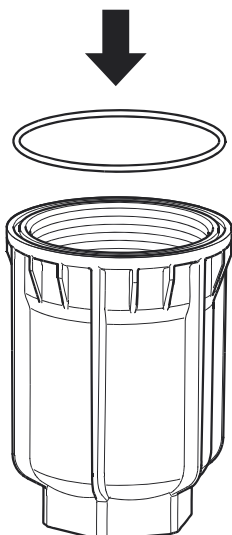

Figure 6 Replace O-Ring
13. Replace the O-ring in the filter housing. See Figure 6.